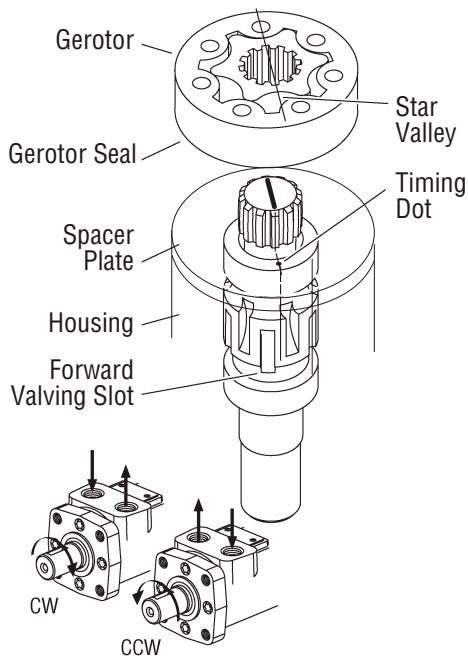

Figure 5-34, Reverse Rotation
12. Lubricate the ID of the seal tube and OD of the shaft pressure seal with a light film of clean petroleum jelly. Align the small ID end of the seal tube with the seal seat in the mounting flange. Install the back-up ring and pressure seal in the tube with lips of the seal face up (Figure 5-34). Insert the seal driver in the tube and firmly push seal seat with a rotating action.
26. For reverse rotation align any star valley with the marked tooth on the drive. (Figure 5-34)